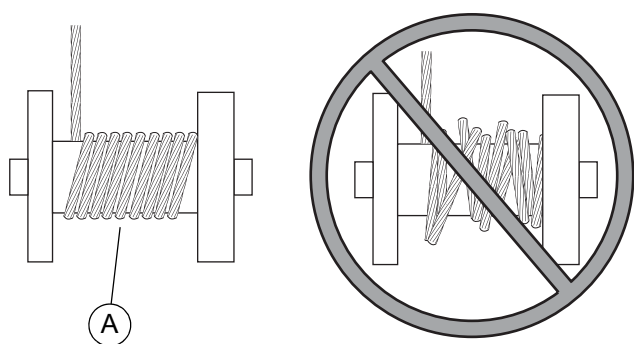

Figure 3-3. Winch Cable Alignment
5. See Figure 3-3. Verify cable winds evenly around winch drum as shown (A) to prevent cable damage.